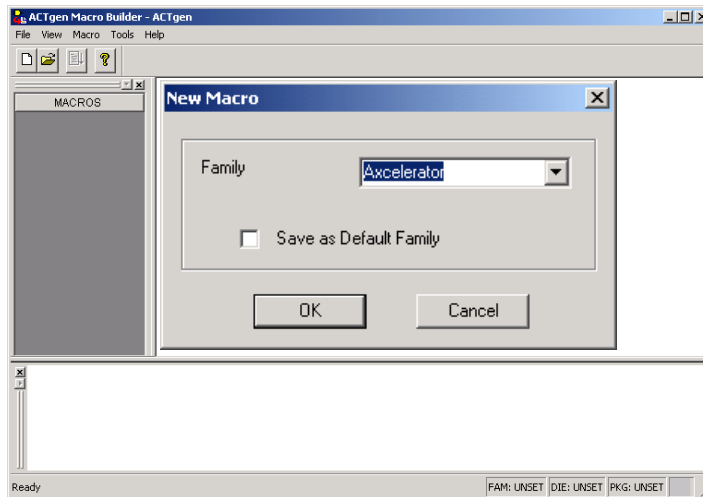

Figure 7 • Invoking ACTgen and Choosing the Accelerator Family
- Select File -> New to select the AX Family as shown in Figure 7. Click OK.